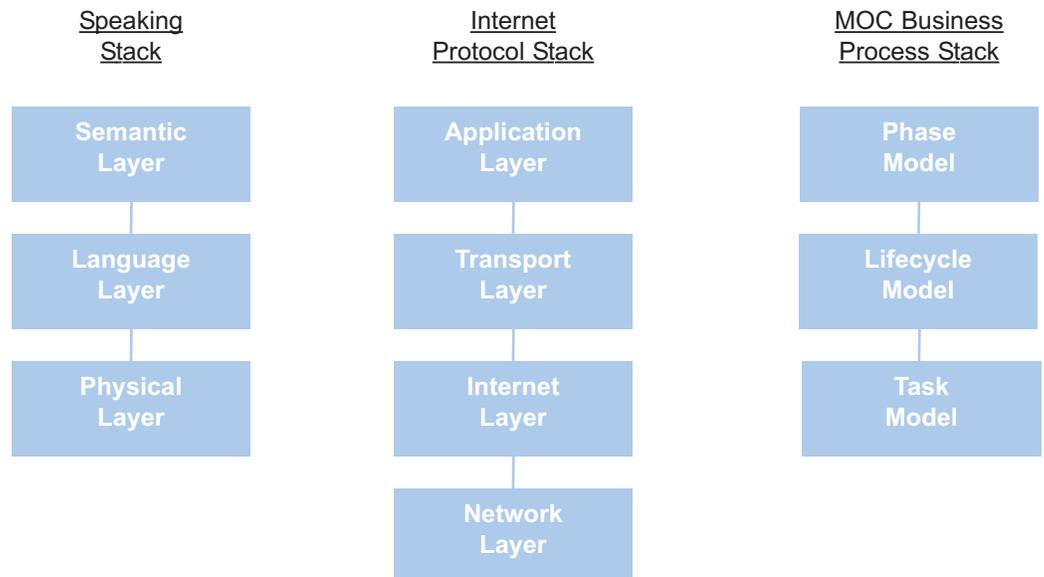

Figure 1. Protocol Stacks
There are many forms of communication that can be represented and analyzed using a "stack" model. The left hand diagram of Figure 1 shows a simplified stack for speech. At the physical level, speech requires sound waves—vocal cords and hearing apparatus are necessary for communication at this Physical Level to occur. Vocabulary and the rules of grammar govern communication in the Language Layer. Finally, the Semantic Layer represents that meaning that is implied by the words. For example, the words, "I saw a tokamak yesterday" are acceptable words, used in proper sentence structure (language). But the meaning is "yesterday I saw a tokamak nuclear reactor, so I must have been at a nuclear power or research facility" (semantic). The second example is the well-known Internet Protocol Stack¹. And finally, there is the MOC Business Stack.
- 1) Some readers may be familiar with the Open Systems Interconnection (“OSI”) Basic Reference Model which describes a 7-layer stack. The diagram in Figure 1 shows the Internet Protocol stack which is not intended to be OSI compliant.